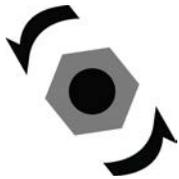

Fig 1. Remove Screwcap
- Locate the safety reset near the main switch and IEC socket on the back of the electrical box. It is displayed as a black or red knob (Fig 1).